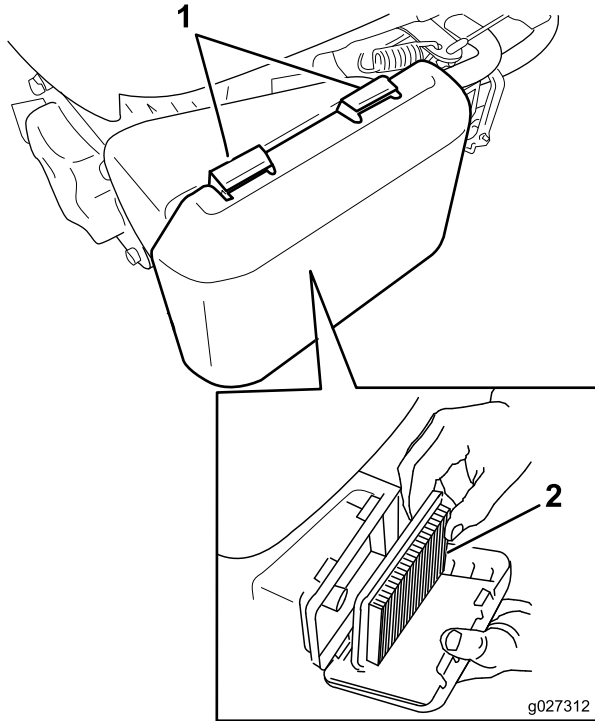

Figure 19
2. Press down on the latch tabs on top of the air-cleaner cover (Figure 19).